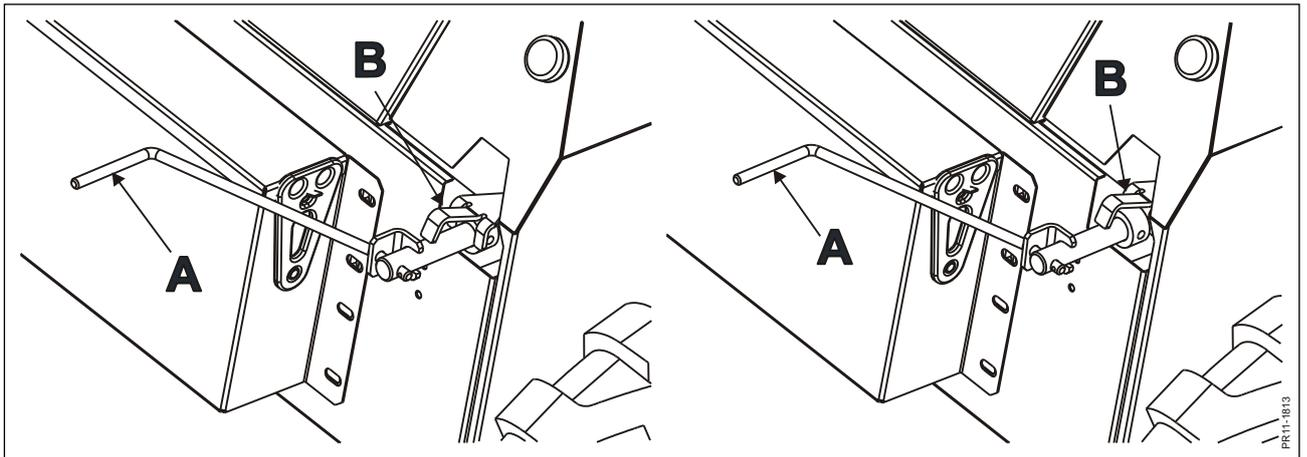

Fig. 3-8
**Fig. 3-8** Tighten the relief springs with the spindle **A** until the ground pressure for the pick-up is maximum 30 kg. The spindle lock **B** is pulled out to release the spindle and pushed in to lock it. Lift up the lock to move it. Hold the spindle **A** in horizontal position so that the lock **B** can be engaged.